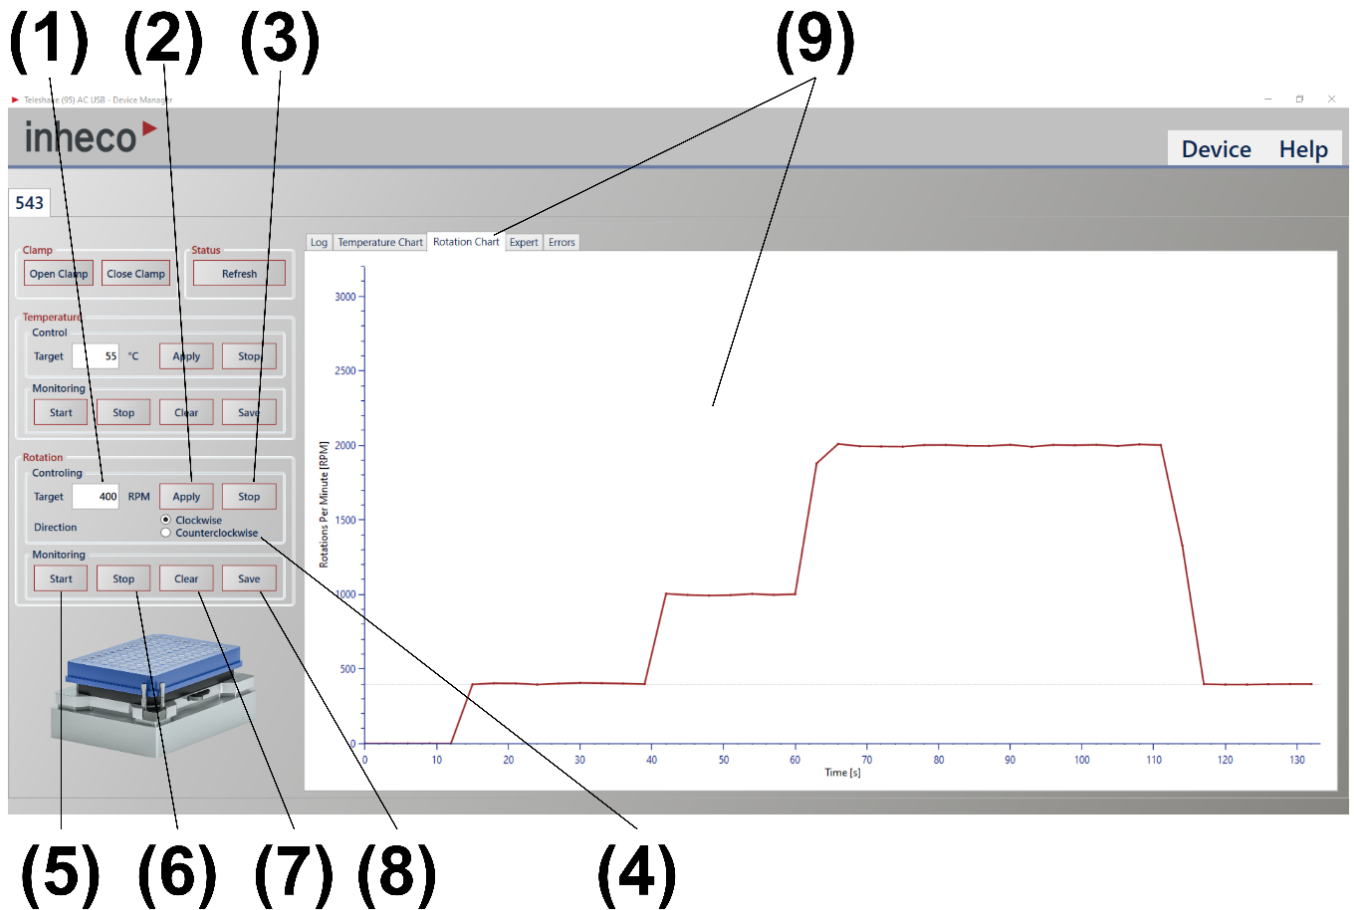

Figure 5: Rotation control (1-4), rotation monitoring (5-8), and rotation chart (9).
To adjust the temperature of the selected device, input the desired value for the temperature setpoint in the "Target" (1) field and click the "Apply" (2) button to transmit the value to the device (Figure 5). This action can only be executed, if the device is connected to a proper DC power supply with a voltage level of +24 V (±10%) and a maximum current of at least 6.3 A.
To start or end the monitoring feature, use the "Start" (3) or "Stop" (4) buttons found in the "Monitoring" section (Figure 5). To erase the temperature chart (8), click the "Clear" (6) button. Exporting the temperature readings into a CSV file can be activated by clicking the "Save" (7) button, followed by a dialog box to select a file name and storage location.